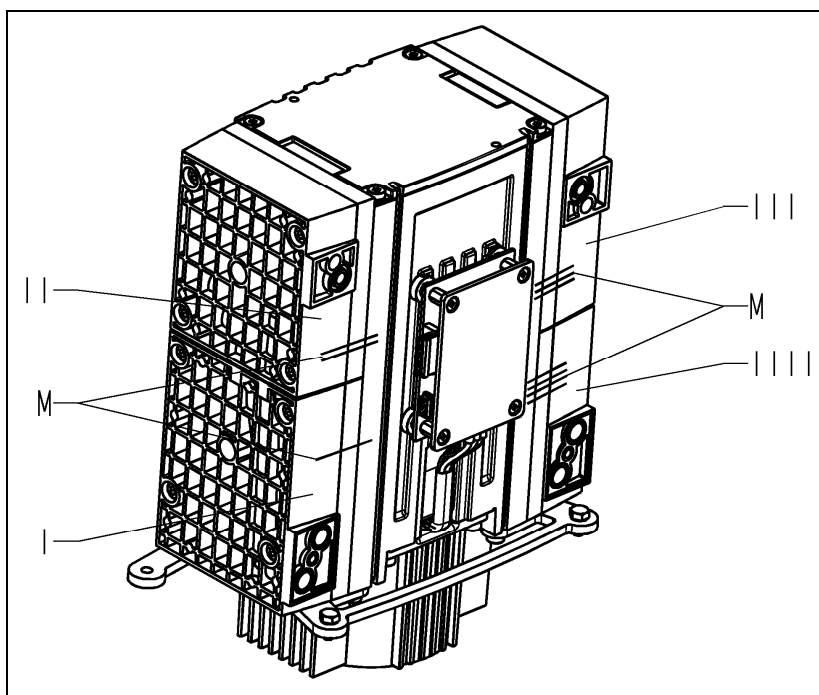
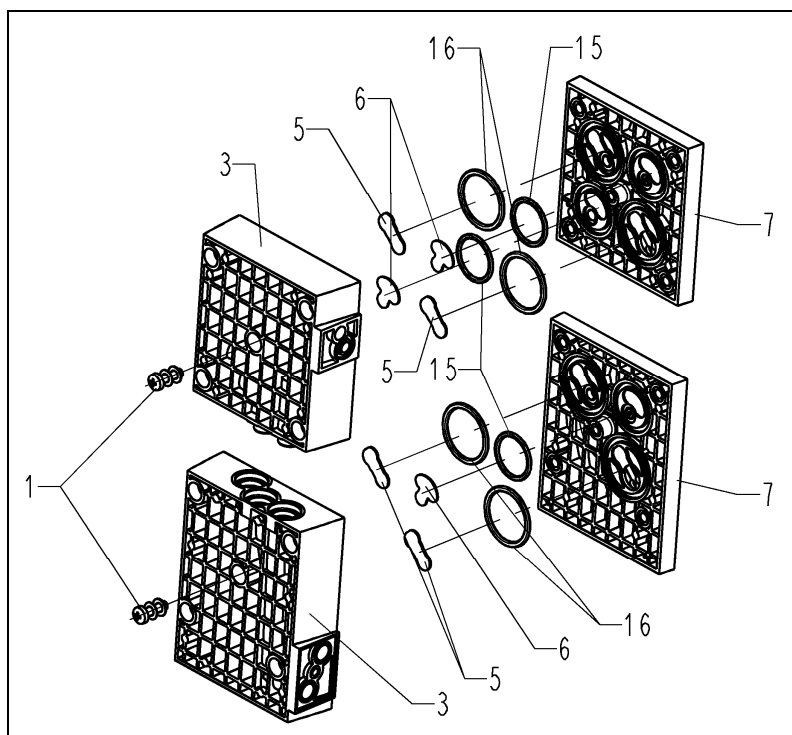

Fig. 24: Marking the pump
Fig. 26: Exploded drawing of pump heads 1 and 2
3. Head 1 (Fig. 24/I):
4. Head 2 (Fig. 24/II):
5. Head 3 (Fig. 24/III):
6. Head 4 (Fig. 24/IIII):
9. On all four heads, loosen the head screw (Fig. 26/1) in the head plate (**3**) and remove the head plate from the intermediate plate (**7**).
2. Remove from the intermediate plates (Fig. 26/7) the valve plates (5) and (6) as well as the O-rings (15) and (16).
4. Insert the new valve plates (Fig. 26/5) and (6) and the new O-rings (15) and (16) into the intermediate plates (7).
5. Place head plate (Fig. 26/3) onto the intermediate plates (7), observing the pencil marks (Fig. 24/M).
6. Carefully tighten the head screw of each head plate (Fig. 26/1). Use light force and tighten only to hand-tightness.
- i** The three black O-rings (4) must be placed into the connection holes between head 3 and head 4!
2. Press together heads 1 and 2 (Fig. 24/I and II) and heads 3 and 4 (III and IIII).
4. Insert O-rings (Fig. 24/14) and flat seals (11) into the grooves or depressions in the head plates.